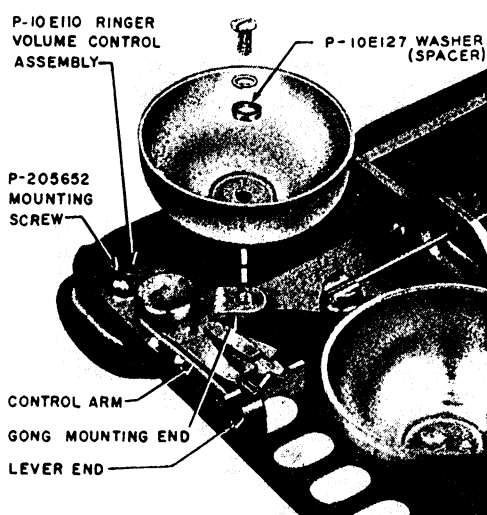

Fig. 24 — Ringer Volume — Control Assembly
3.11 The ringer volume control assembly may be provided on all 300 series desk-type telephone sets (see Fig. 24).